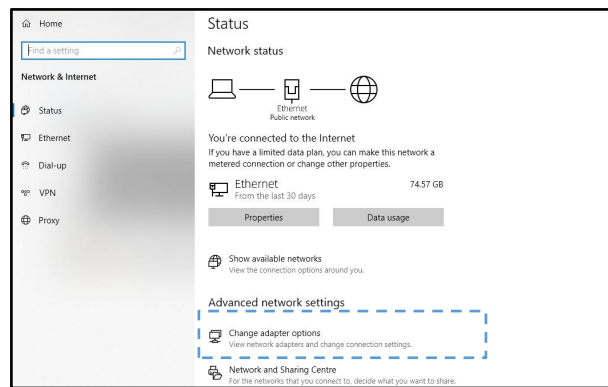

Figure 5-8 Network Status
Step 2: In the "Network Status" window (Figure 5-8), select "Change Adapter Options" in the advanced network settings;